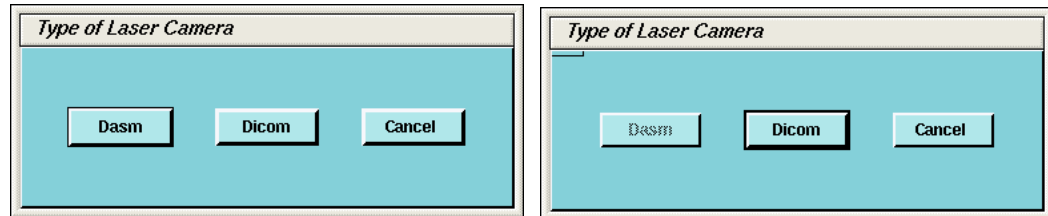

Figure 13-10 Dialog Box for camera Type (with and without DASM)
- b.) A dialog window for the camera type (DASM/DICOM) is displayed. If no DASM is detected during the OC boot, the DASM button is disabled (see Figure 13-10). If a DASM is present and is not detected, reboot the OC and run the camera configuration tool again.